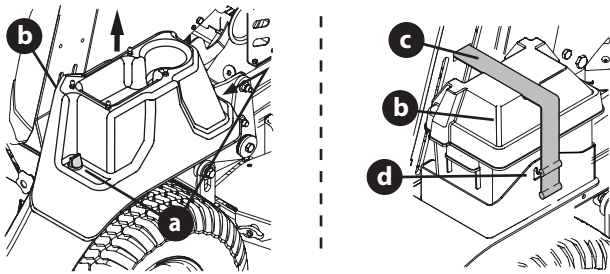

Figure 22
- Mowers with 48, 54 or 60 Inch Decks - Remove the two thumb screws (a) securing the battery cover (b) to the right fender. Lift up to remove the battery cover (Figure 22 on page 20).
- Mowers with 36 Inch Decks - Unhook the rubber strap (c) securing the battery cover (b) to the battery tray (d). Lift up to remove the battery cover (Figure 22).